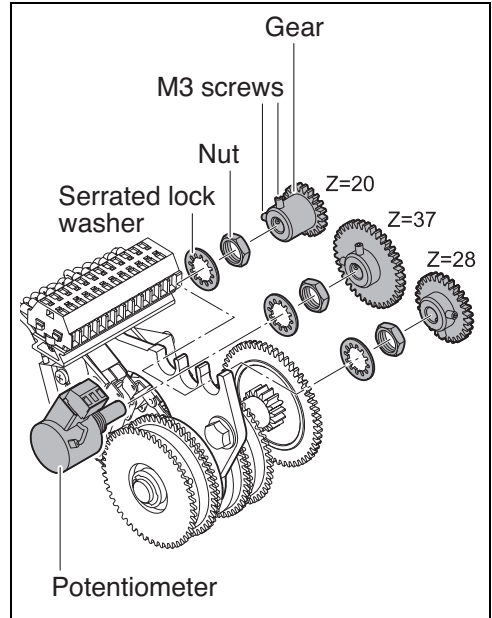
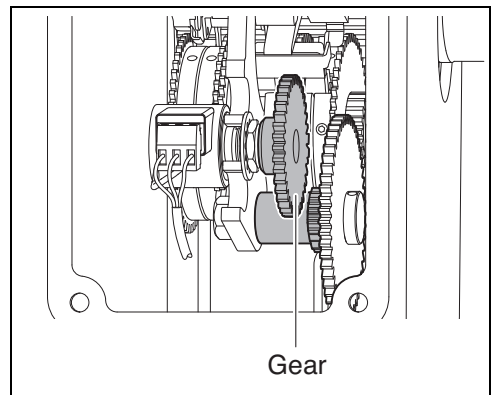
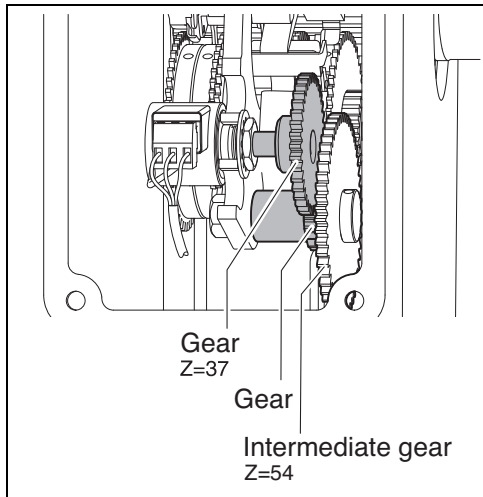

Fig. 16
Fig. 17
Fig. 19
- ▶ Position the potentiometer, together with the gear selected from the Table and the nut and serrated lock washer, in the limit switch bracket (see Fig. 16).
- ▶ Shift the gear so that the teeth are **not** engaged (see Fig. 17). **Slightly** tighten the two M3 screws in the gear (see Fig. 16).
- Loosen the M3 screws in the gear again (see Fig. 16). Shift the gear on the potentiometer shaft so that its teeth engage in the gear (see Figures 19–21). Now tighten the M3 screws, tightening torque 4.42 lbf-in (0.5 Nm).